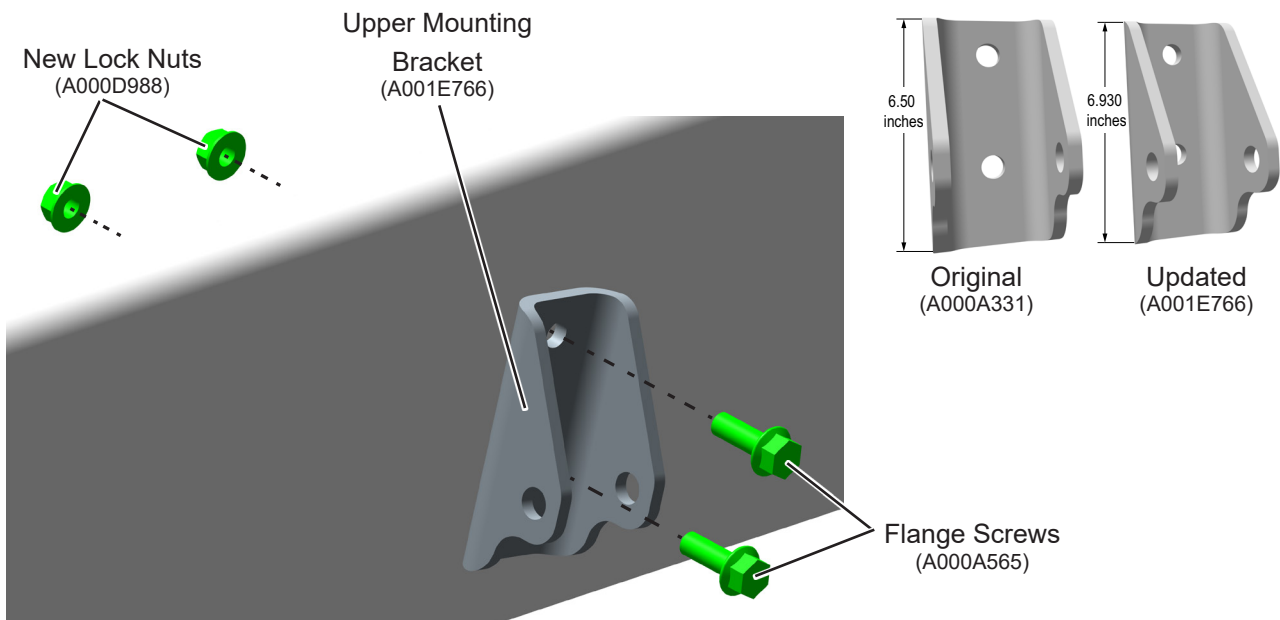

Figure 3 - Upper Mounting Bracket Installation
9. Install new upper mounting bracket (A001E766) to frame rail using 0.62-11 X 1.75" flange screws (A000A565) and new lock nuts (A000D988). See Figure 3. Final tighten mounting hardware to 210 ft. lbs.